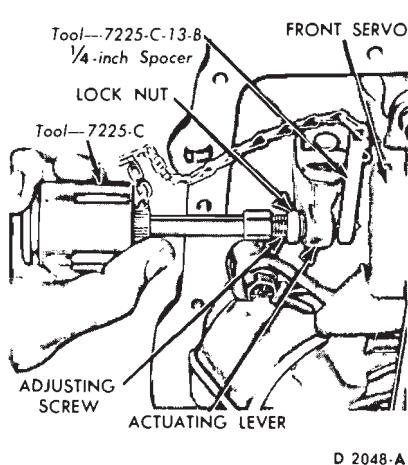

FIG. 13—Adjusting Front Band—Typical
4. Pull back on the actuating rod, and insert the 1/4 inch spacer between the adjusting screw and servo piston stem (Fig. 13). Tighten the adjusting screw to 10 in-lbs. torque. Remove the spacer and tighten the adjusting screw an additional 3/4 turn. Hold the adjusting screw stationary and tighten the lock nut securely.